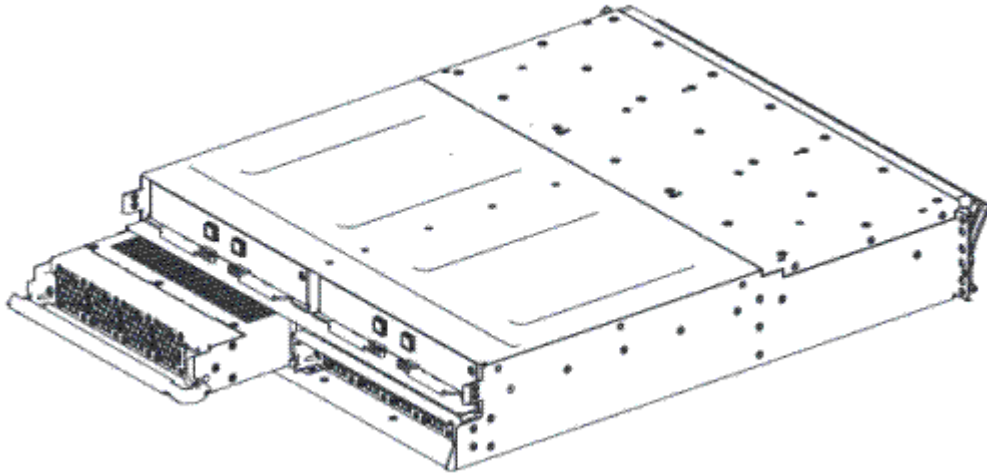

Figure 129. Removing the power supply unit from the left side of the expansion enclosure
5. Using the handle, gently slide the power supply out of the enclosure, as shown in Figure 129 on page 166.